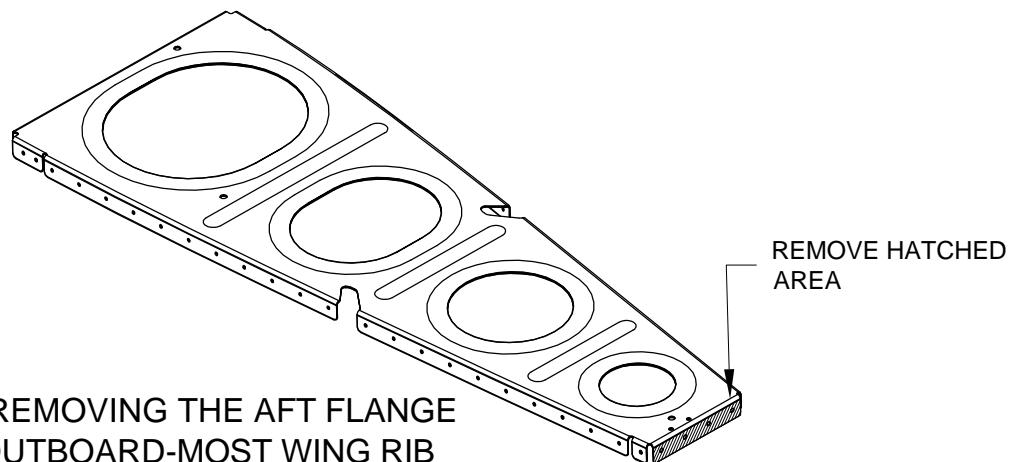

FIGURE 2: REMOVING THE AFT FLANGE OF THE OUTBOARD-MOST WING RIB
Step 2: Remove the aft flange but not the flange radius from the **W-1012-R** Outboard Wing Rib as shown in Figure 2.